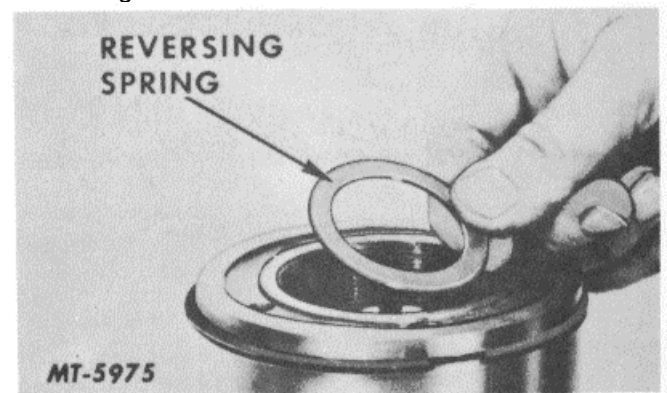

Fig. 23
20. Lift reversing spring from the actuating valve, Fig. 23.
1. Install new bushings (if removed) in the gear housing and cover, using a press and a straight line pushing action. The bushing is pushed into the gear housing, so that the inside face of bushing is flush with inside face of gear housing, Fig. 23.